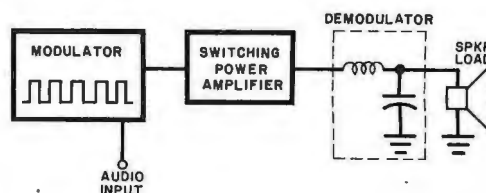

Fig. 4. Typical configuration of a class D switching power amplifier.
The block diagram of Fig. 4 illustrates a typical configuration of a switching amplifier. As audio is applied to the input, it modulates a series of high-frequency pulses, varying pulse width as a function of instantaneous audio amplitude (Fig. 5). The power amplifier switching module amplifies the variable-width pulses, which are then fed to the demodulator. Components in the demodulator inte-
Fig. 5. With circuit in Fig. 4, audio signal (A) modulates pulses (B) to give pulses of varying width (C). These are then integrated to create replica of the original signal.